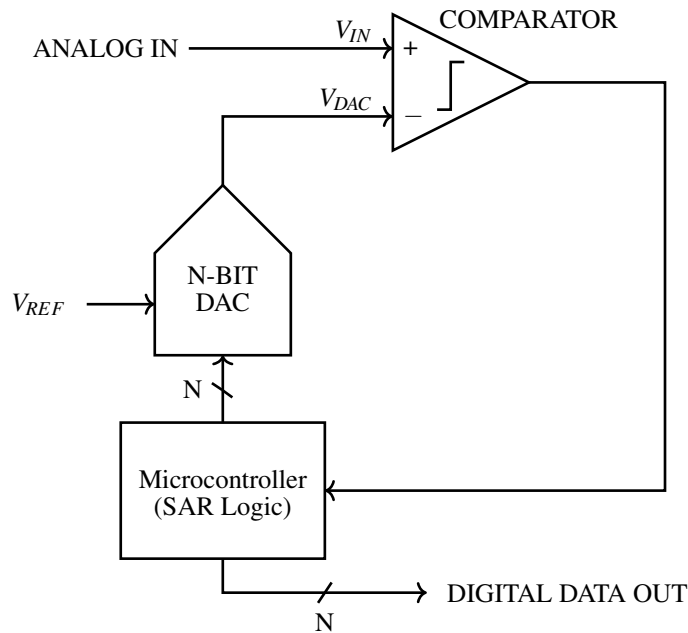

Figure 2: SAR ADC circuit diagram
The SAR ADC algorithm tries various binary “trial codes” by feeding them into a **DAC** to generate voltages and comparing the result with the analog input voltage using a **comparator**. It then uses feedback (**SAR logic**) to adjust the DAC voltage to get as close as possible to the analog voltage. The algorithm starts with the most significant bit (MSB), which is the bit with the largest binary weight (i.e. furthest to the left in a binary number). The circuit diagram of the SAR ADC is shown in Figure 2. The comparator outputs logic high (1) when $V_{IN} \geq V_{DAC}$ and logic low (0) when $V_{IN} < V_{DAC}$. An illustration of the algorithm is shown in Figure 3.
Let’s walk through the operation of the N-bit SAR ADC shown in Figure 2 in detail.